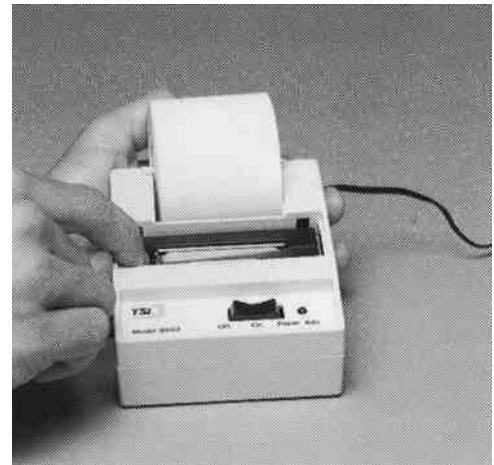

Figure VIII-4. Removing slack from the ribbon
Step 4. Turn the cartridge knob (marked by an arrow) clockwise to remove any slack from the ribbon (fig. VIII-4).